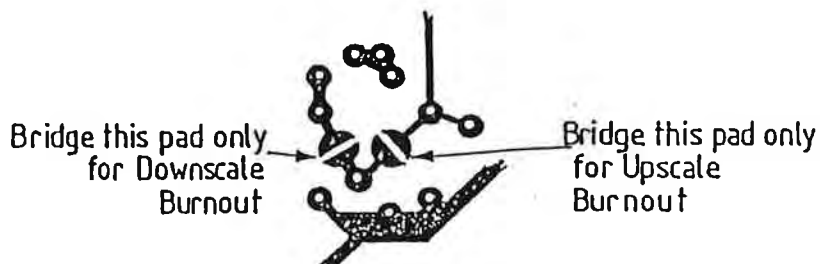

FIG 5 UP OR DOWN SCALE BURNOUT
The inverting input of the 351 is now connected by the 3M3 resistor and the 22 microF capacitors so as to form a negative feedback loop. The 351 now has both a negative and a positive feedback loop, the negative having a time constant formed by the 3M3 and 22 microF's. This causes the 351 output to oscillate, switching cleanly between -6V and +6V. The mark-space ratio of oscillation depends upon the magnitude of the voltage at test point m such that when m is negative the 351 output spends most of its time at -6V, when m is positive most of its time is spent at +6V and when m is zero volts an equal time is spent at +6V and -6V. The S500's output relay therefore switches in a time-proportioning mode, output = 50% (nominal) at zero error. The S500 derives its power from the mains transformer which is over-temperature protected by means of a non-resettable thermal cut-out (OT) mounted between the transformer and the printed circuit board. The secondary of the transformer provides via a bridge rectifier both a +16V and a -16V (approximately) unregulated DC supply. The +16V powers the relay and the front panel LED's, it is then regulated at approximately +7.6V by a 8.2V zener and a BC548 transistor (test point j). The -16V is regulated at -8.2V by a 8.2V zener (test point l). The common of the power supply is test point k to which all the above mentioned test point voltages are referred. Upscale or downscale burn-out is achieved by passing a small (0.2mA approx) current either into or out of the 725 input circuitry. This small current is derived from a 10M resistor from either a small positive or negative voltage selected by the D or U blob pads (Fig 5).